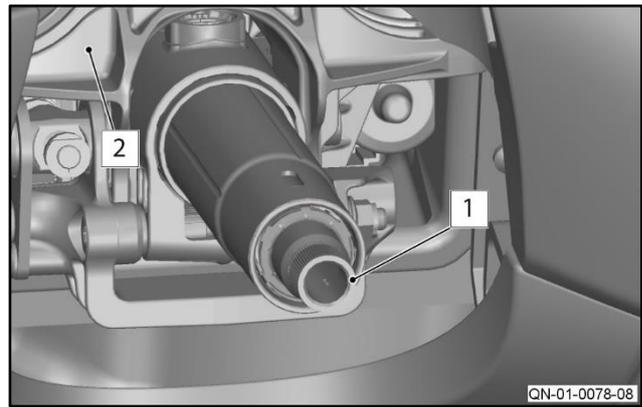

Figure 12
6. Use a multi-meter to measure the resistance between the inner column (1) and the steering column casing (2) (refer to Figure 12).